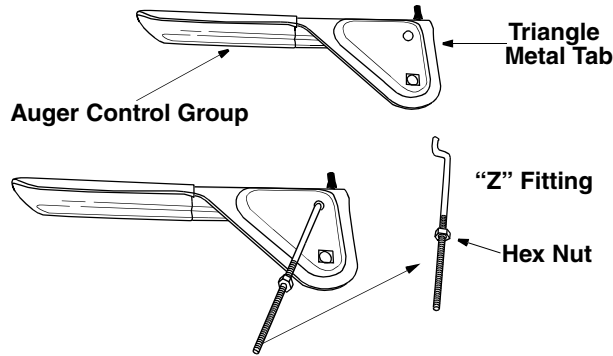

Figure 4
- Thread hex nut onto the "Z" fitting and insert curved end of the Z fitting into the top hole in the triangular metal tab on the auger control grip. See Figure 4.